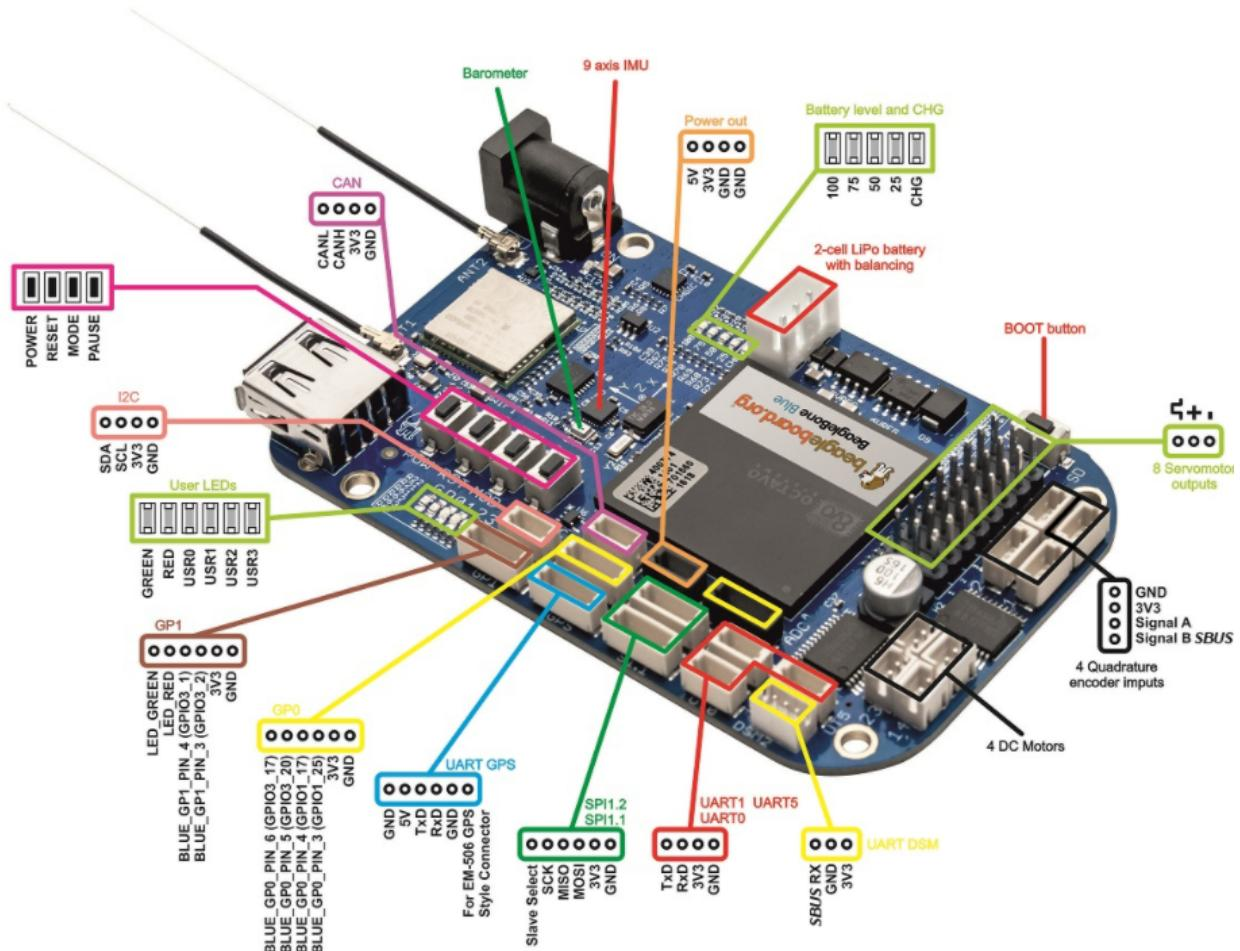

Figure 6 – BBB Pinout
6. Figure 6 shows the correct pinout for the I2C port. Make sure you refer to it during troubleshooting.